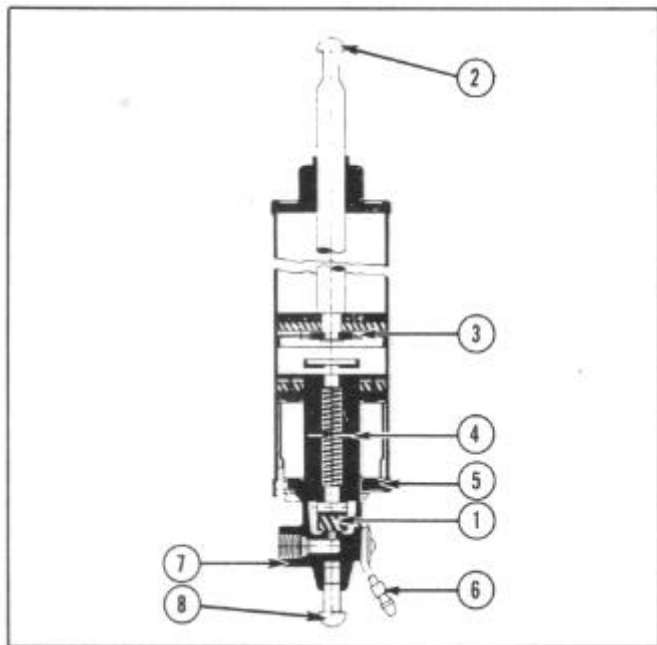

FIGURE 155
The door window regulator cylinder unit, Figure 155, consists of a tubular cylinder which is closed at one end by a crimped-in formed cup which houses a saturated felt. This felt prevents the entry of dirt or water to the upper portion of the cylinder and lubricates the piston rod. The upper end of the piston rod (2) is mushroom shaped and fits into a formed seat on the cross arm. It is held in position by a spring steel retaining clip. At the lower end of the rod (3), an assembly of metal and synthetic rubber washers form the piston assembly. The lower end of the rod is riveted over to form a unit construction.